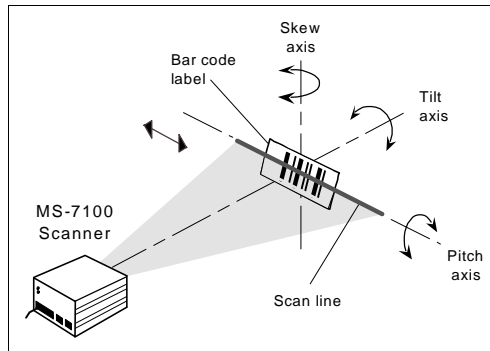

Figure 1-10 MS-7100 Orientation
- b. Pitch label slightly as shown in figures 1-10 and 1-11 to avoid *specular reflection*, the return of direct, non-diffused light.²